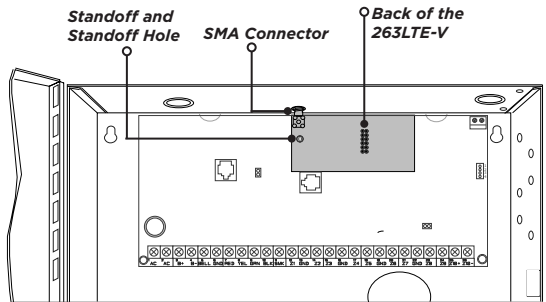

Figure 2: 263LTE-V on an XT30/XT50 Panel
3. For XT30/XT50 Series panels, align the 263LTE-V SMA antenna connector with the antenna hole in the top of the panel enclosure and secure it on the 12-pin cell module connector. See Figure 2.